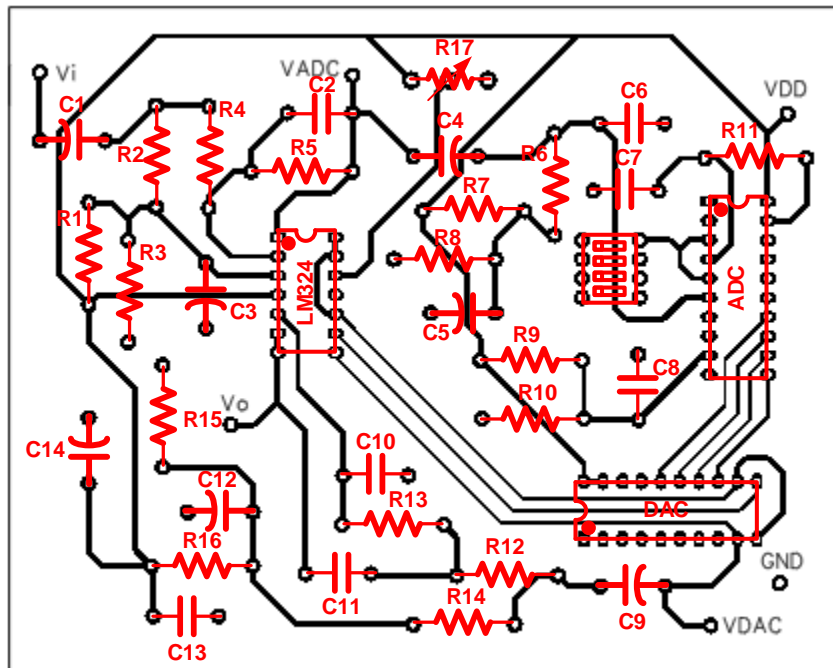

Fig. 4. PCB Layout of the AFE circuits
The designers should prepare all the listed components and implement the circuit of the AFE circuits on PCB. Students are suggested to solder components following the PCB layout shown in Fig. 4.
There are 3 notifications in Fig. 4:
- Fig. 4 show the **top view** of the PCB with the underneath routing wires on bottom layer. Pin 1 of LM324 is at the **top-left corner** of the IC, which is labeled with a spot (·) sign. The locations of the anodes and cathodes of the capacitors are all clearly labeled as shown in Fig. 4. However, if the electrolytic capacitor is not used in your design, the labels are negligible.
1. Design of the filters shown in Fig. 4
2. Measurement of the AFE circuits shown in Fig. 4